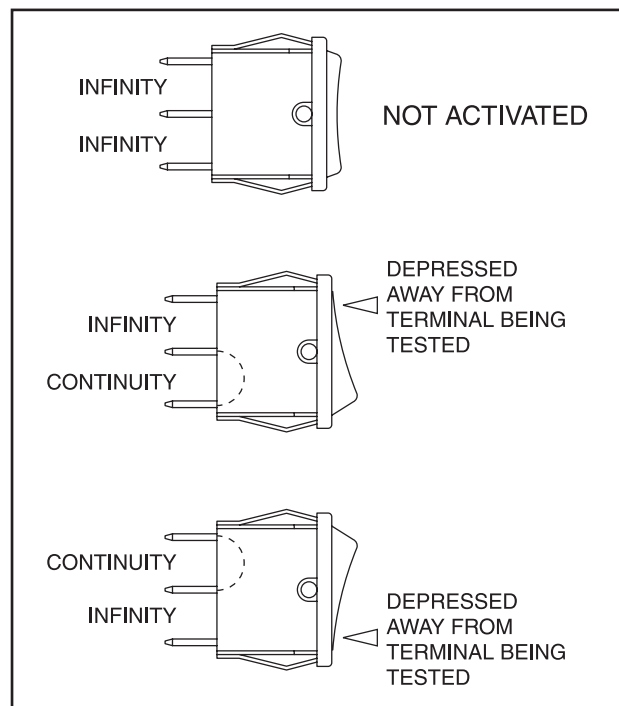

Figure 7-18. – Test 24, Step 6
6. Leave the test lead connected to the center terminal of SW1 from Step 5. Connect the other test lead to an outer terminal. Depress the switch away from the terminal being tested (see Figure 7-18). "Continuity" should be measured. Repeat the procedure with the test lead connected to the other outer terminal. "Continuity" should be measured.